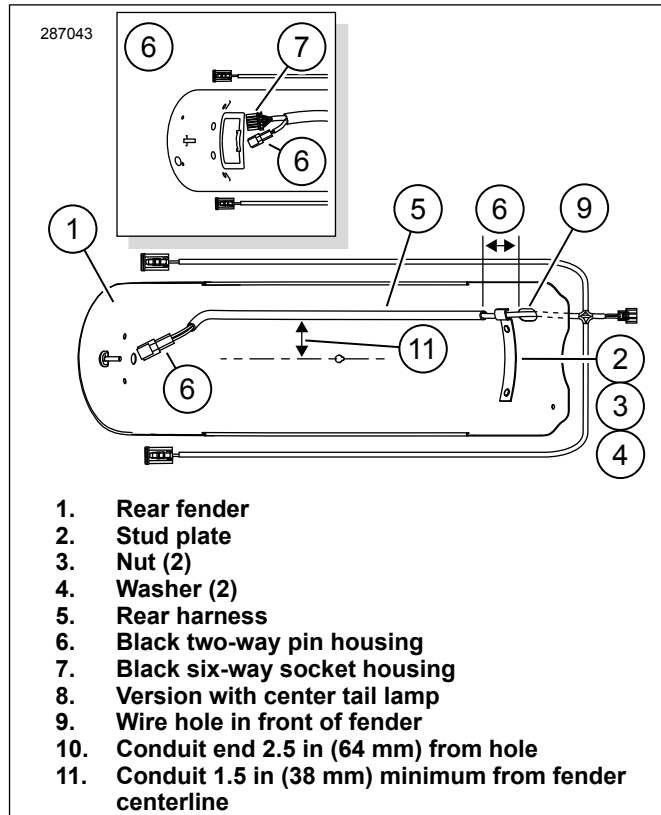

Figure 2. Install Rear Fender Harness
1. See Figure 2. Clean fender (1) underside along harness mounting path as shown with a mixture of 50 percent isopropyl alcohol and 50 percent distilled water. Allow to dry completely. Do not use solvents or harsh chemicals that damage painted surfaces.